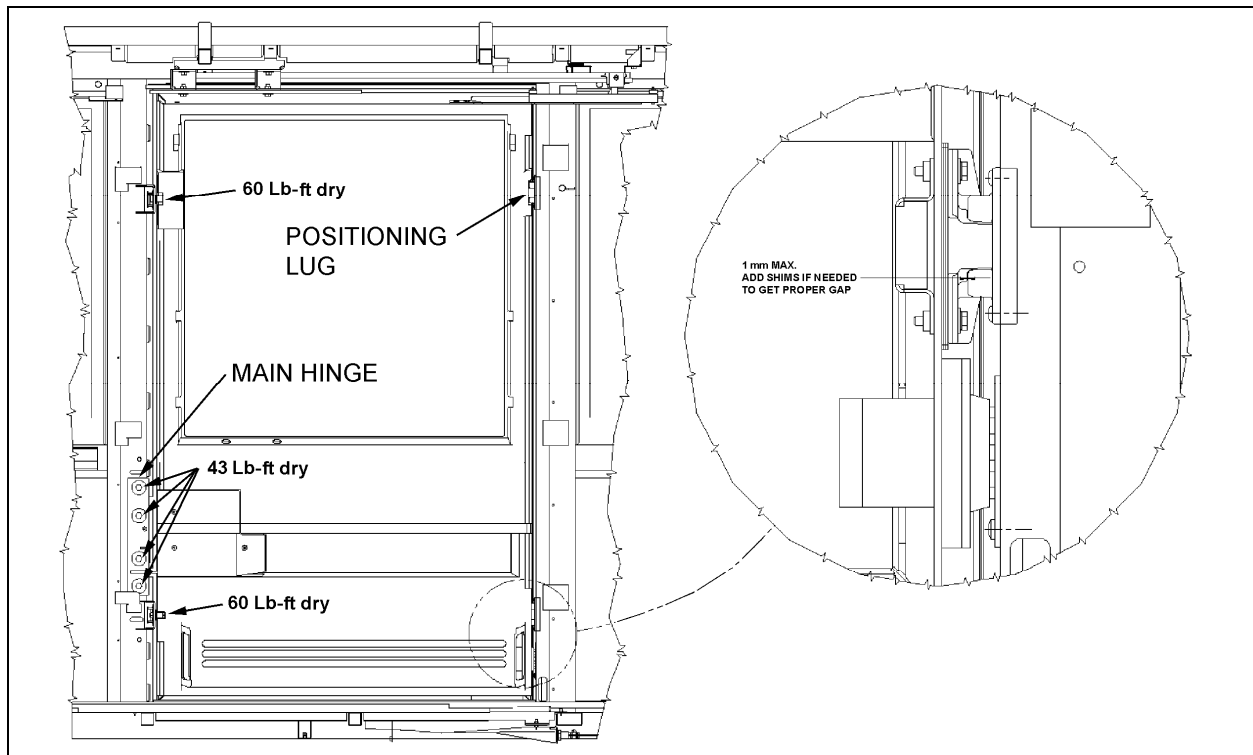

FIGURE 52: WCL SLIDING DOOR INSTALLATION
10. Install and adjust striker pins. (Refer to figure 52).